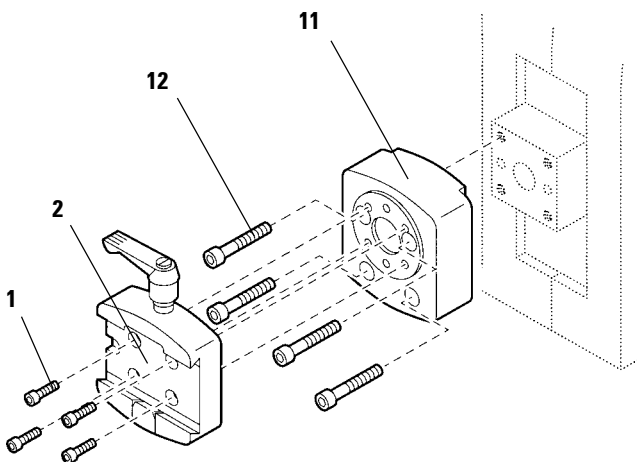

Fig. 62.2
12.8.2 Assembling the non-orienting fixture for specimen clamps (Fig. 62.2)